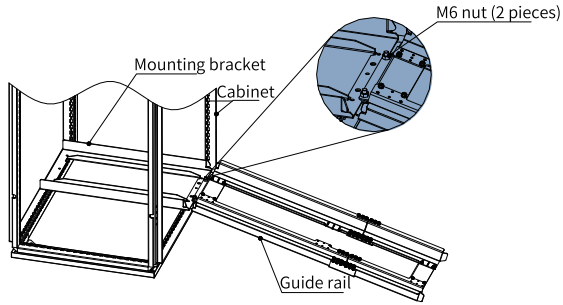

Figure 5-9 Mounting the guide rails on the cabinet
b. Align the two round holes on the front end of the guide rails with the screws of the mounting bracket, and lock them with two M6 nuts, to mount the guide rails on the cabinet, as shown in "Figure 5-9 " on page 84 .